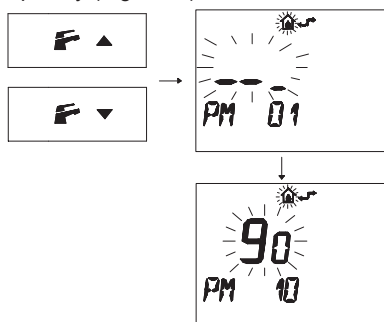

Fig. 8.28
- Press buttons or to display the "PM10" program for selecting the ignition frequency (Fig. 8.28).
In Fig. 8.28 a SET programmed at **90** is displayed corresponding to a re-ignition time of about 3 minutes.